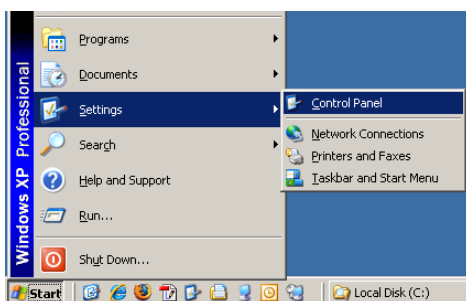
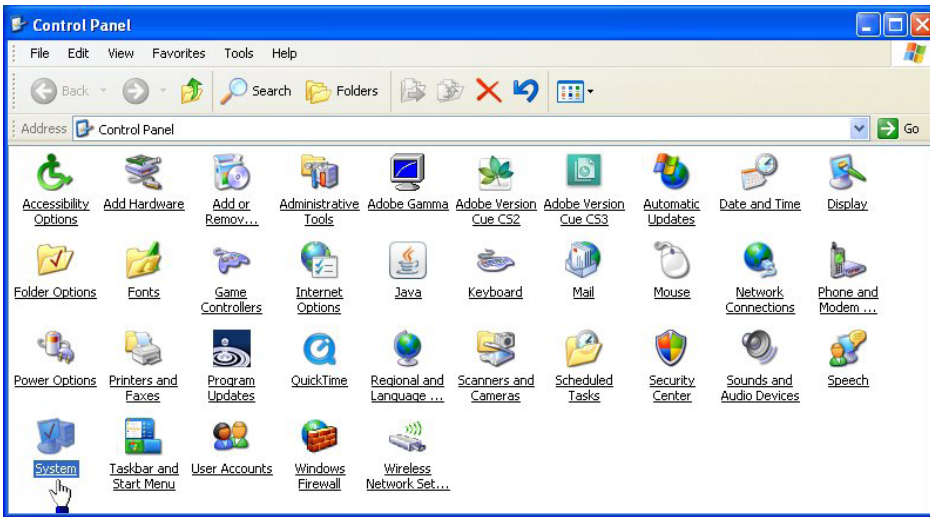

Fig. 52—Windows Start Menu
Fig. 53—Control Panel (bottom)
- Open the **Device Manager**. In Windows XP, click **Start>Settings>Control Panel** (Fig. 52). The **Control Panel** window appears (Fig. 53).